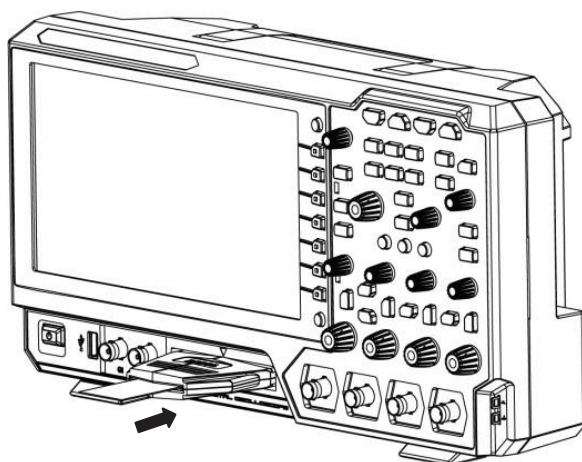

Figure 1-6 To Connect the Logic Probe
1. Connect the output terminal of the logic probe to the digital channel input terminal on the front panel of the oscilloscope in the correct direction, as shown in Figure 1-6.